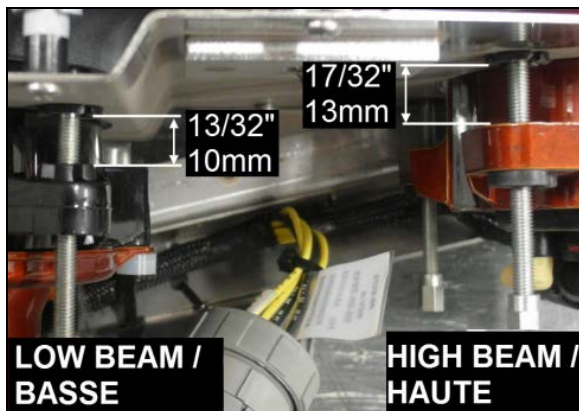

FIGURE 71: HEADLAMP MODULE HEIGHT ADJUSTMENT
9. Adjust the headlamp module height in relation to the support at each threaded rod. Screw threaded rods until height of the headlamp module is 13/32” or 17/32” from the support as shown on Figure 71, depending on which headlamp module is being adjusted